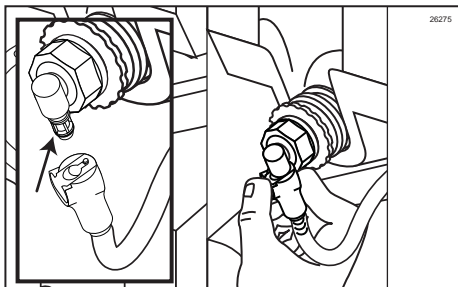

Figure 74
26. Reconnect each syrup line and bag of syrup by pressing the Syrup Bag Connector onto the Syrup Bag Adapter valve. (See Figure 74.)